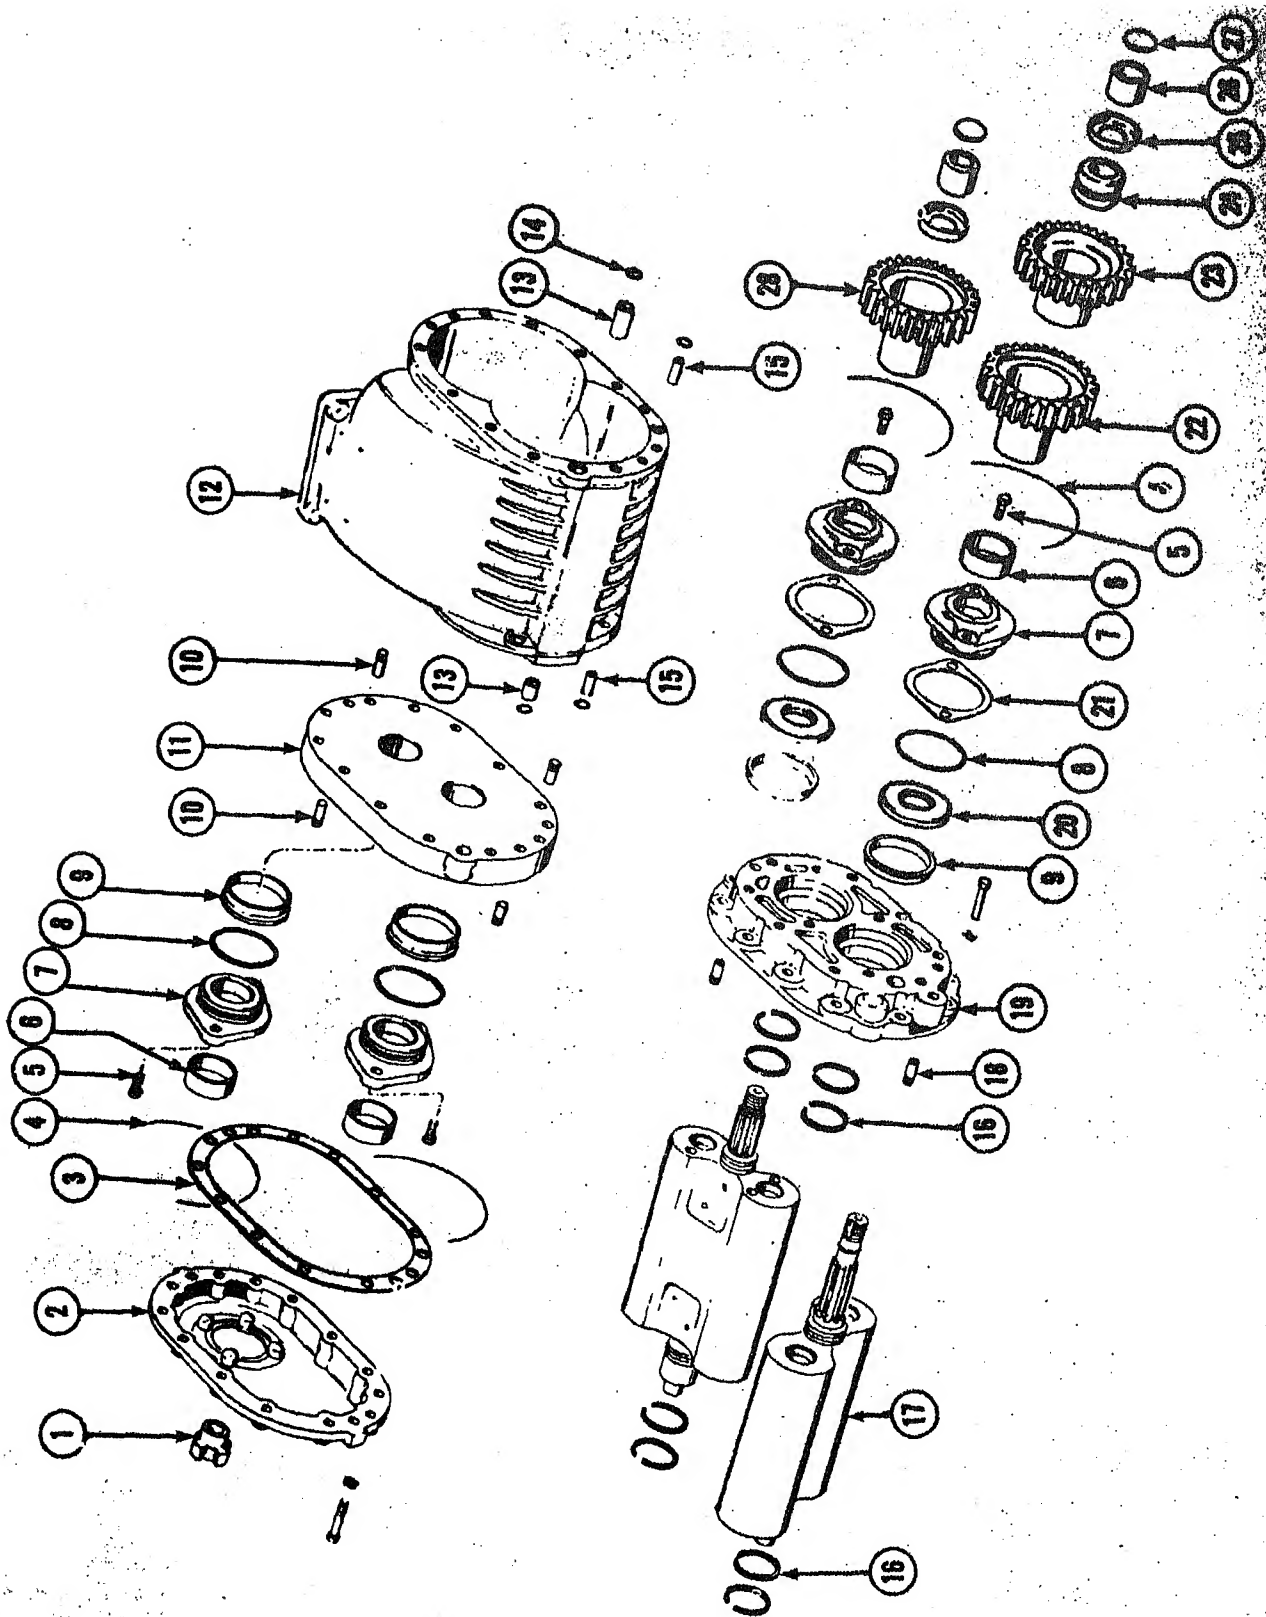
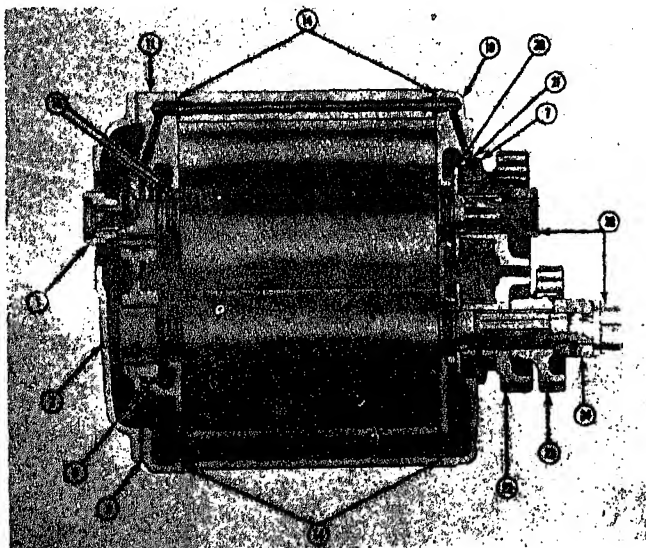
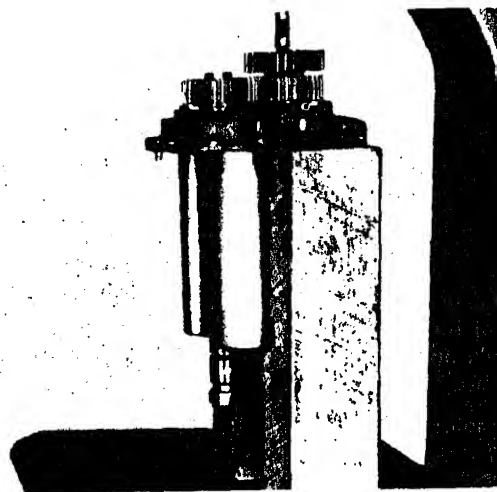

Fig. 10-4-4. Supercharger — exploded view
Fig. 10-4-5. Supercharger — cross section
Fig. 10-4-7. Pressing gears of rotors
See Fig. 10-4-4 and/or Fig. 10-4-5 for reference numbers.
3. Remove shaft nut (26, Fig. 10-4-4) (Fig. 10-4-5) and lock washers (25) from rotor shafts and slide outboard journal (24) from drive rotor shaft (17). Remove expansion plug damaged.
4. Pull water pump coupling half (1) from driven rotor shaft with a gear puller.
5. Remove capscrews and lockwashers securing end cover (2) and gasket (3). Discard gasket. Tap cover with a rubber mallet to loosen from housing dowels (10).
6. Remove capscrews and lockwires securing bearing cage (7) to end plate (11). Remove bearing cages by rotating and prying.
7. Remove bearing cage seal rings (8) and press bearings from bearing cages. Mark bearing cages to assure replacement in identical position from which removed.
8. If damaged, pry oil collector rings (9) from end plate and remove dowels from end plate.
9. Remove capscrews from front end plate (19) and remove end plate and rotor assembly from housing (12).
10. Remove oil pressure ferrules (15) and "O" rings (14).
11. Press drive gear (23) and timing gears (22 and 28) from rotors and end plate assembly and extract rotors from plate assembly. See Fig. 10-4-7 for pressing gears off rotors.
1. Use new shaft nut lockwashers (25, Fig. 10-4-4), expansion plugs (27), seal rings (8), oil collector rings (9) and gaskets (3) in assembly.
2. Install new shaft seal rings (16) on rotors.
3. Install new bearing cage seal rings (8) on bearing cages (7).
4. Press bearings (6) into bearing cages and oil collector rings (9) into end plates. Press in new end plate dowels (10), if removed.
5. Install oil pressure ferrules (15), drain ferrules and ferrule seal rings (14) in housing (12).
6. Position thrust washers (20), shims (21) and bearing cages (7) into gear end plate (19); secure with capscrews and lockwires (4).
11. Press drive gear (23, Fig. 10-4-4) on drive rotor shaft snugly against timing gear and install outboard bearing journal (24) on drive rotor shaft.
12. Install shaft nut lockwashers (25) and shaft nuts (26) on
15. Install oil pressure ferrules (15, Fig. 10-4-4) and "O" rings (14). Lubricate with light oil. Position housing (12) over rotors against end plate (19) and secure with lockwires and capscrews.